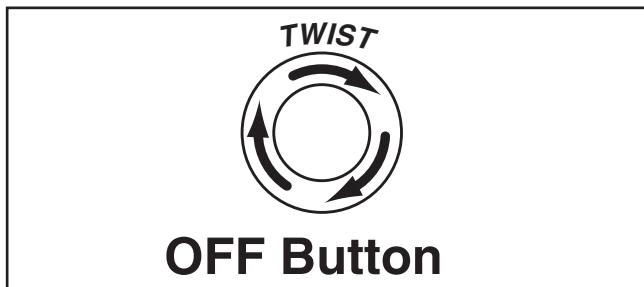

Figure 5. Resetting the switch.
- Twist the OFF button clockwise so it pops out. When the OFF button pops out, the switch is reset and ready for operation (see **Figure 5**).